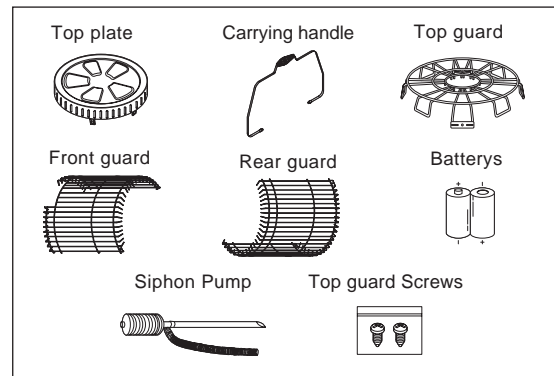

Fig.2
1. REMOVE THE HEATER AND ALL PACKING MATERIALS FROM THE BOX.(Fig. 2)